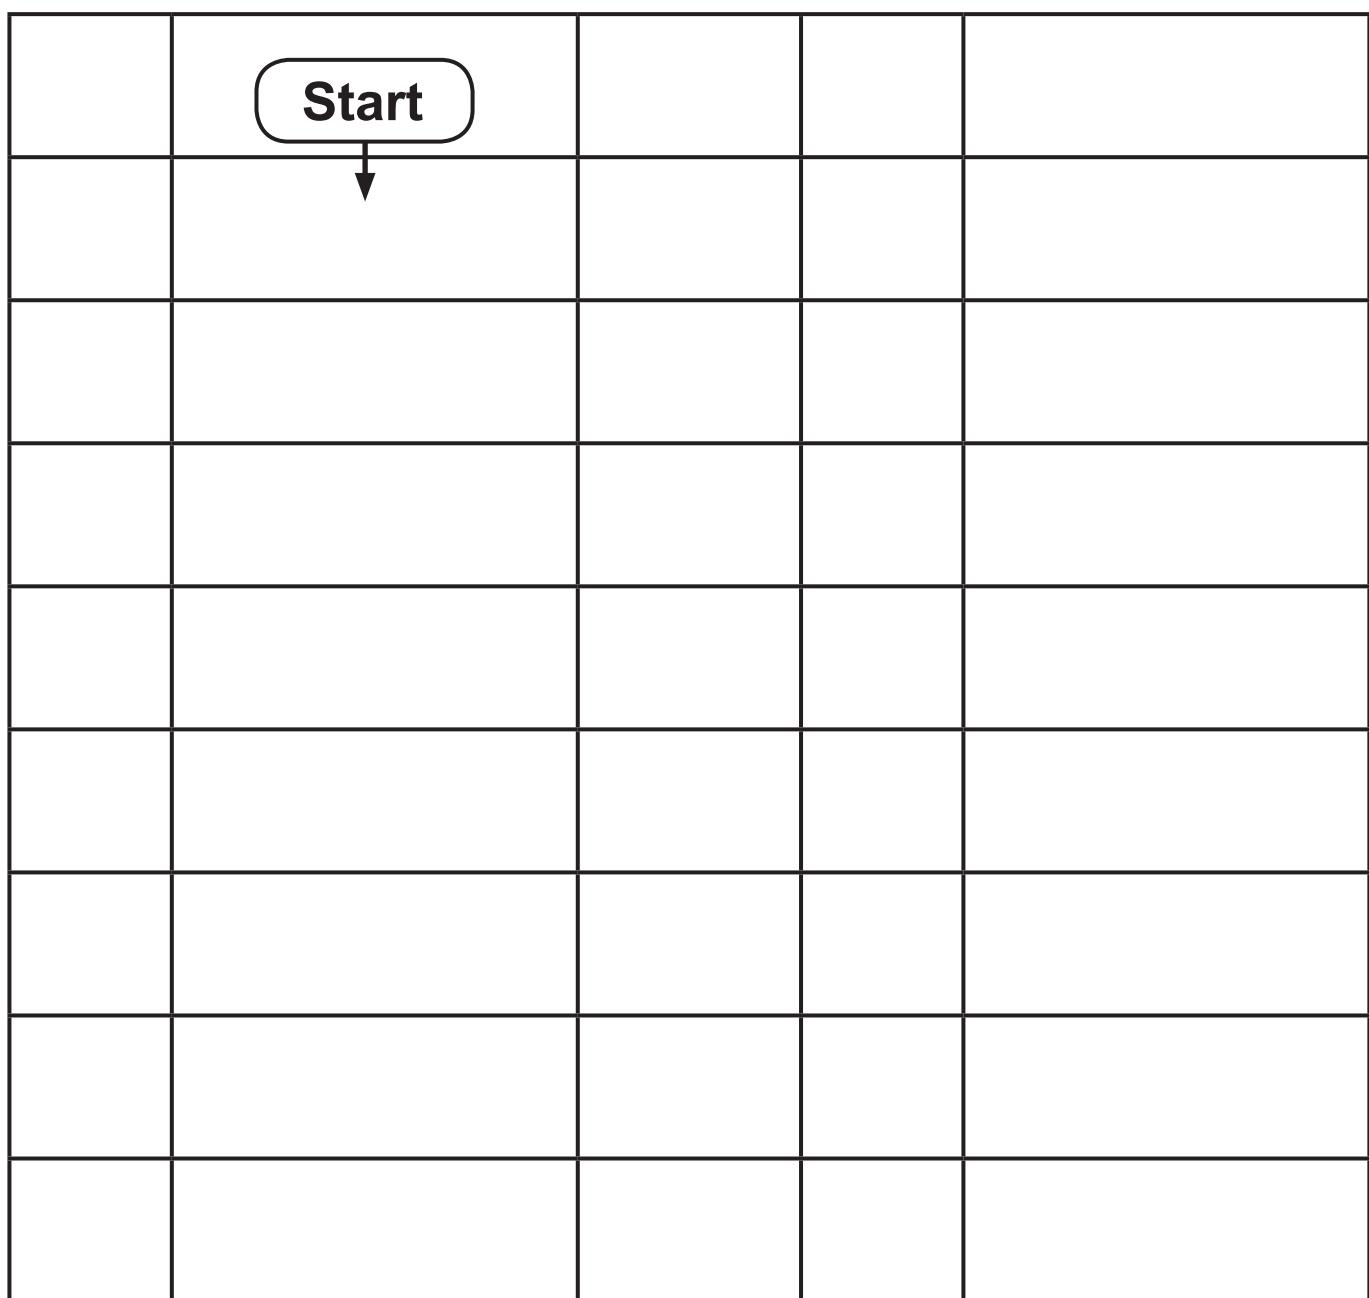

Fig. 13
- (iv) Complete the flow chart in **Fig. 13** to show the full operation of the buggy. [10 marks]